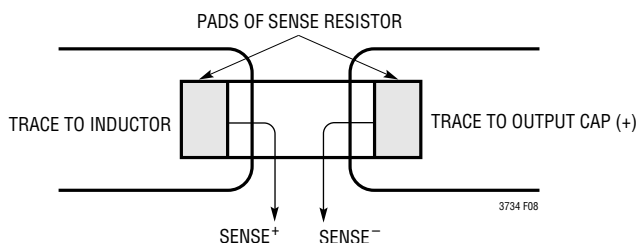

Figure 8. Proper Current Sense Connections
3) Are the SENSE– and SENSE+ leads routed together with minimum PC trace spacing? The filter capacitors between SENSE+ and SENSE– pin pairs should be as close as possible to the LTC3734. Ensure accurate current sensing with Kelvin connections at the current sense resistor. See Figure 8.